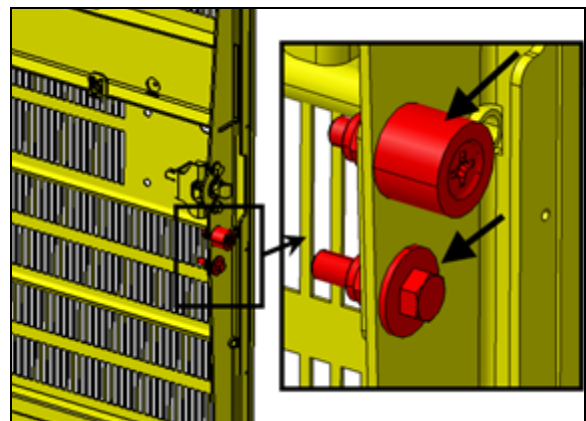

FIGURE 62
10. Check that the two items identified with arrows are snug but not tight (FIGURE 62).